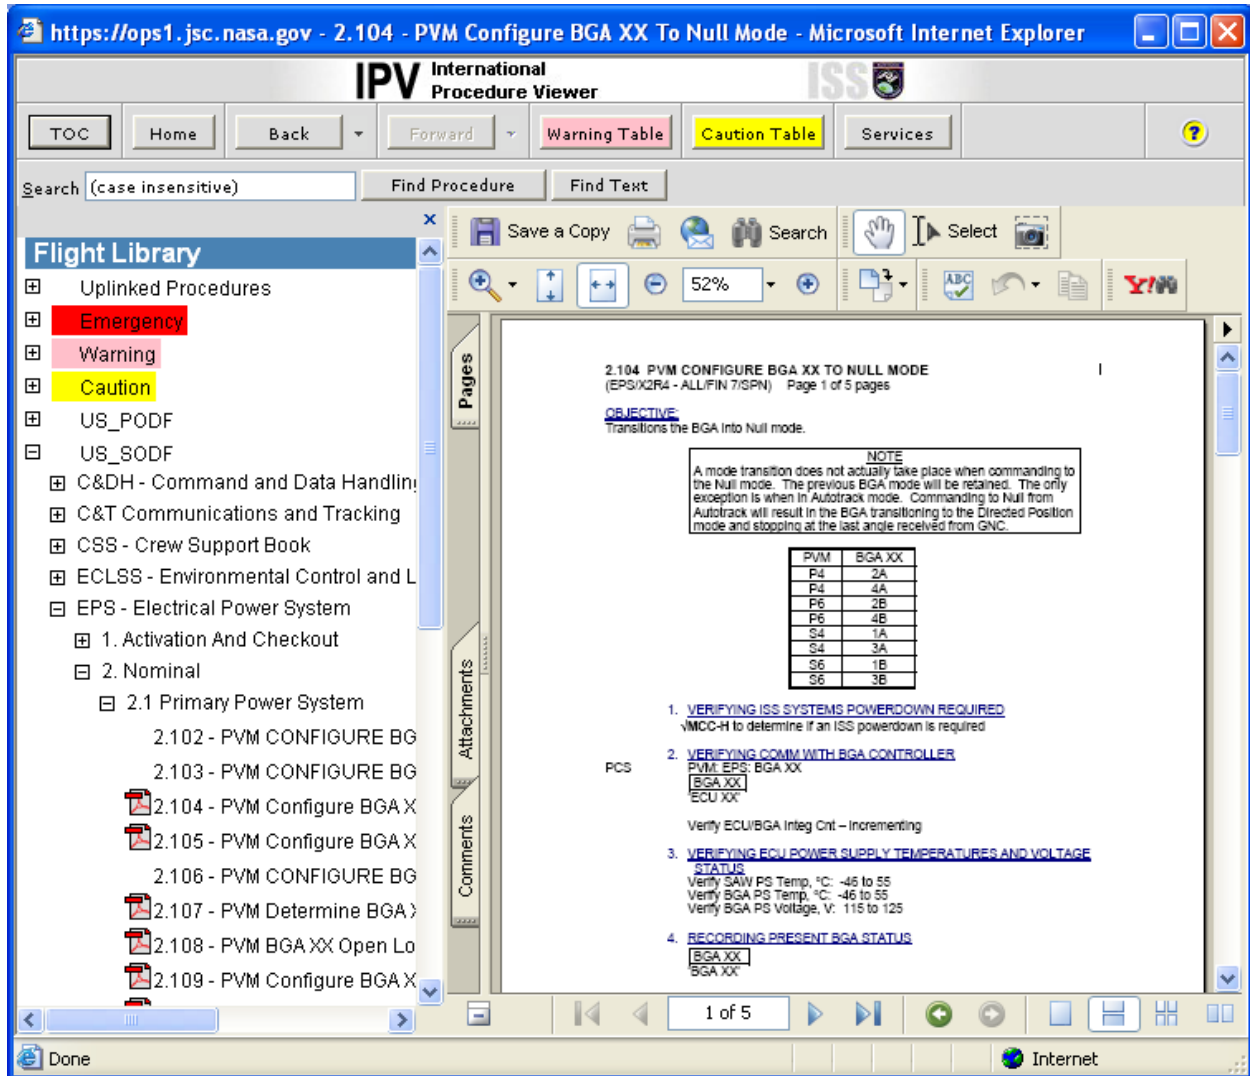

Figure 4-72. IPV open document dialog
- b. When MPV is started, the Open Document dialog appears (shown in Figure 4-72).
The IPV window has three main sections (panes). The first section is the menu bar (see Figure 4-72). The second section contains the Library popdown selector and a set of buttons. The third section contains the opening IPV window with the ODF symbol or the procedure that you would like to view.